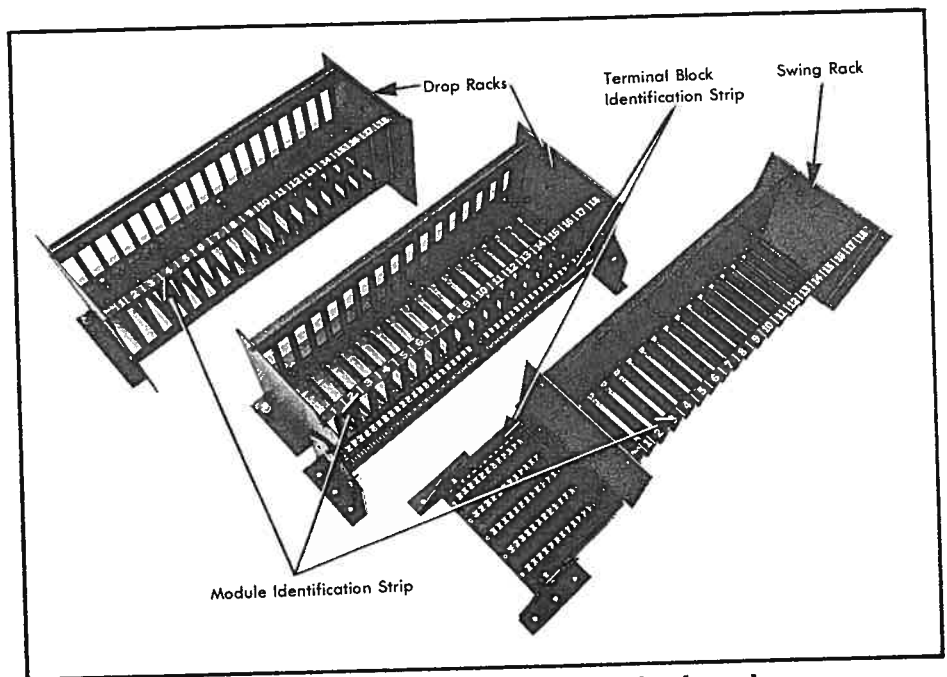

Figure 1-7: Terminals are an integral part of Numa-Logic racks.
5. Terminals are standard on all racks (Figure 1-7), eliminating the need for separate terminal assemblies.